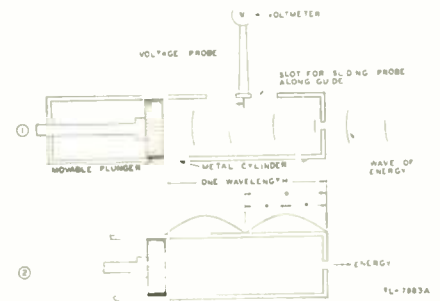

Fig. 14. (1) Field energy may be injected through orifice. (2) Distribution of standing wave in cavity
A resonator for wave length measurement is shown in Fig. 14.(1). Energy is allowed to enter the small opening in the end plate from a source of radiated fields. If the plunger is not at the proper position for the frequency of the waves entering, the cavity does not resonate and hence there is no reading on the meter. If the plunger is moved back and forth some point may be found where resonance takes place and the energy wave reflected from the piston aids the incoming wave rather than cancels it. A standing wave of voltage and electric field is then set up and is indicated by the meter.
If the resonating section is long enough so that a voltage maximum and minimum may be found by moving the r-f probe in its lengthwise slot, the wave length may be determined. Thus, in Fig. 14.(2) if distance A or B is determined, the wave length in the glide is $2b$ or $4a$. This value is always greater than the wave length in air for the same frequency.